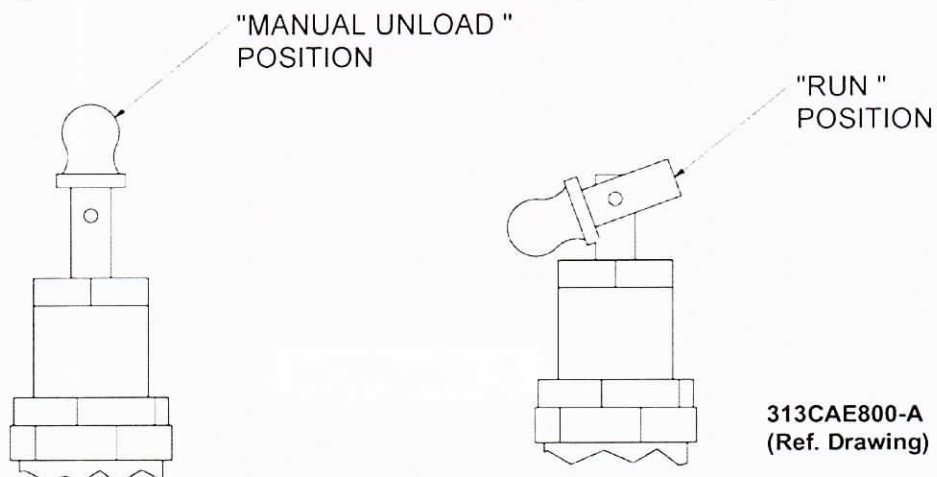

Figure 5
5. Flip toggle lever on pilot valve to the "Manual Unload" position. See Figure 5.
7. Flip toggle lever on pilot valve to the "Run" position. See Figure 5
4. Flip toggle lever on the pilot valve to the "Manual Unload" position. See Figure 5.
6. Flip toggle level on pilot valve to "Run" position. See Figure 5.